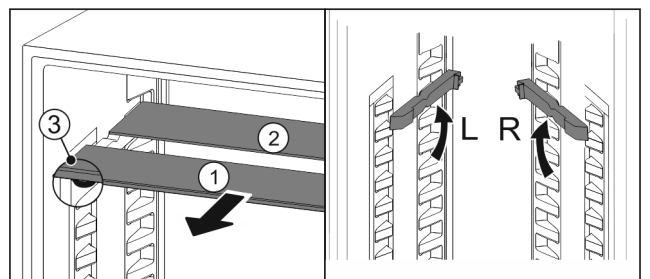

Fig. 192
- ▶ Pull the glass panels out Fig. 192 (1) from the front, one at a time.
- ▷ The glass panel *Fig. 192 (1)* and trim strip are at the front.
- ▷ The stops *Fig. 192 (3)* point down.